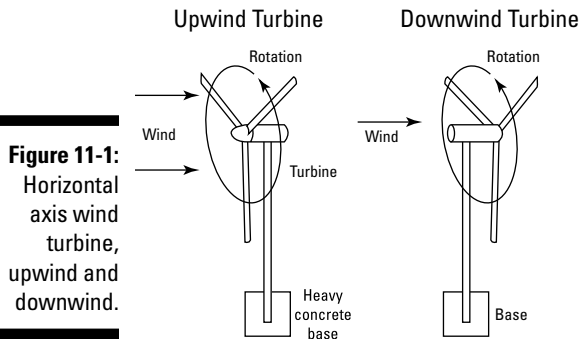

Figure 11-1:
- ✓ **A horizontal axis design** is the most common and features an axis of rotation parallel to the ground. Figure 11-1 shows an upwind and a downwind embodiment of a horizontal axis turbine.
Most heavy duty wind turbines operate with the blades facing into the wind (refer to Figure 11-1). This is called an upwind design. Other systems are leeward, or downwind, designs. There is ongoing debate about which type produces more output electrical power over the course of a windy day, and so far there is no consensus.